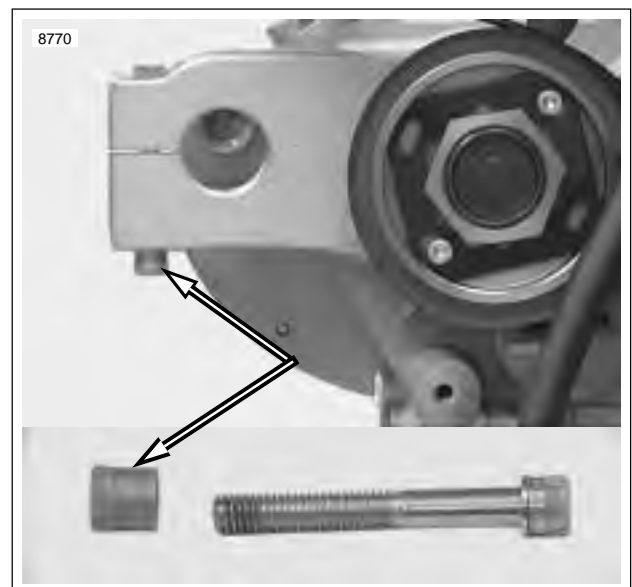

Figure 3-37. Installing Threaded Insert
- c. See Figure 3-37. Swingarm pivot shaft pinch bolt threaded insert.